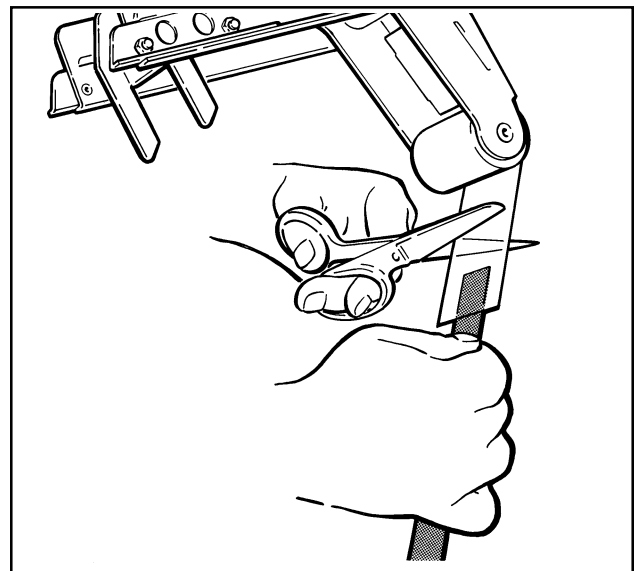

Figure 3-5—Cut Excess Tape
- Excess tape may be cut with a scissors at the applying roller as shown in Figure 3-5.